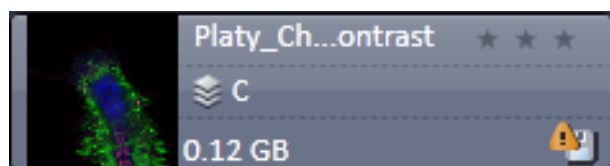

Fig. 706 Image with warning symbol
- In case the image is not saved or has been processed, a warning symbol is displayed on the right side (Fig. 706).